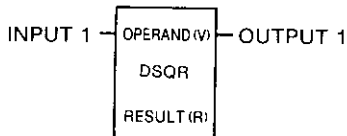

Fig. 5.48 DSQR General Form
- Fig. 5.48 shows the form of double-precision square root (DSQR).